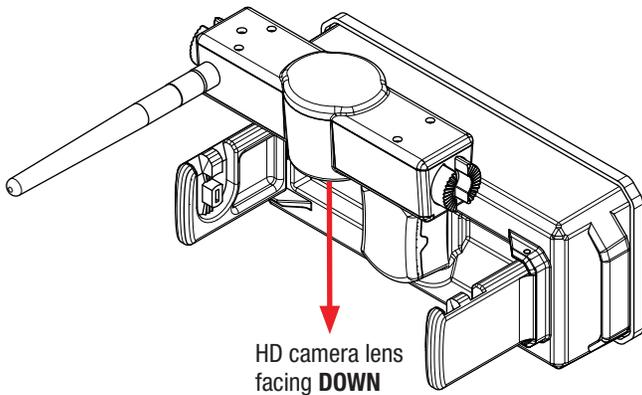
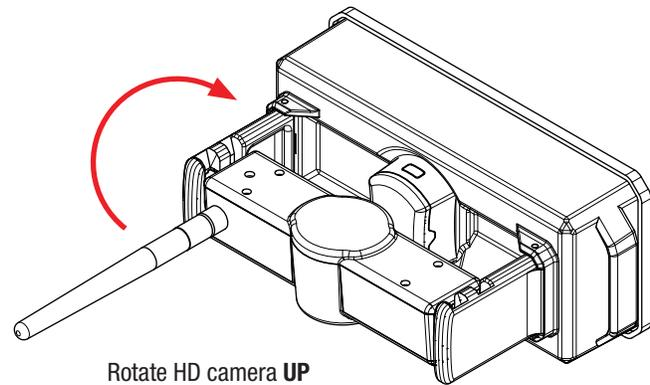
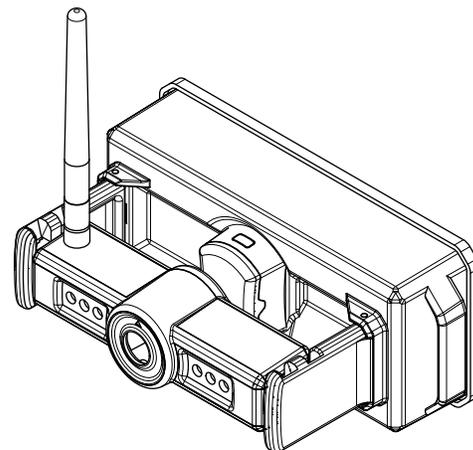

Fig. 11
Fig. 12
Fig. 13
2. Slide the HD camera into the mount at a 90-degree angle so that HD camera lens is facing the ground (Fig. 11). The slotted wings of the HD camera will be seated in the slotted arms of the mount (Fig. 12).
4. Rotate the HD camera up to your desired camera angle (Fig. 12). The HD camera has multiple angles that automatically lock into place (Fig. 13).